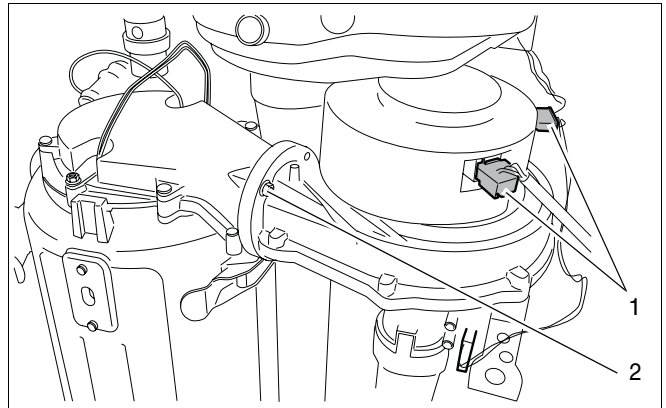

fig. 73 Remove plugs and nut
- Remove both plugs from the fan (→ fig. 73, item 1) and the nut (→ fig. 73, item 2).